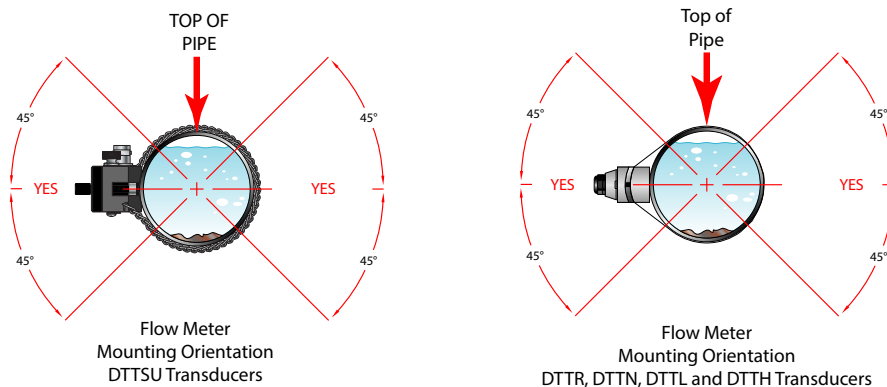

Figure 18: Transducer orientation for horizontal pipes
2. Orient and space the transducers on the pipe to provide optimum reliability and performance. On horizontal pipes, when Z-Mount is required, mount the transducers 180 radial degrees from one another and at least 45 degrees from the top-dead-center and bottom-dead-center of the pipe. See Figure 18 on page 20. Also see “Z-Mount Installation” on page 23. On vertical pipes, the orientation is not critical.
3. Crease the paper at the fold line. Mark the crease. Place a mark on the pipe where one of the transducers will be located. See Figure 18 for acceptable radial orientations. Wrap the template back around the pipe, placing the beginning of the paper and one corner in the location of the mark. Move to the other side of the pipe and mark the pipe at the ends of the crease. Measure from the end of the crease (directly across the pipe from the first transducer location) the dimension derived in “Select a Mounting Configuration” on page 19. Mark this location on the pipe.